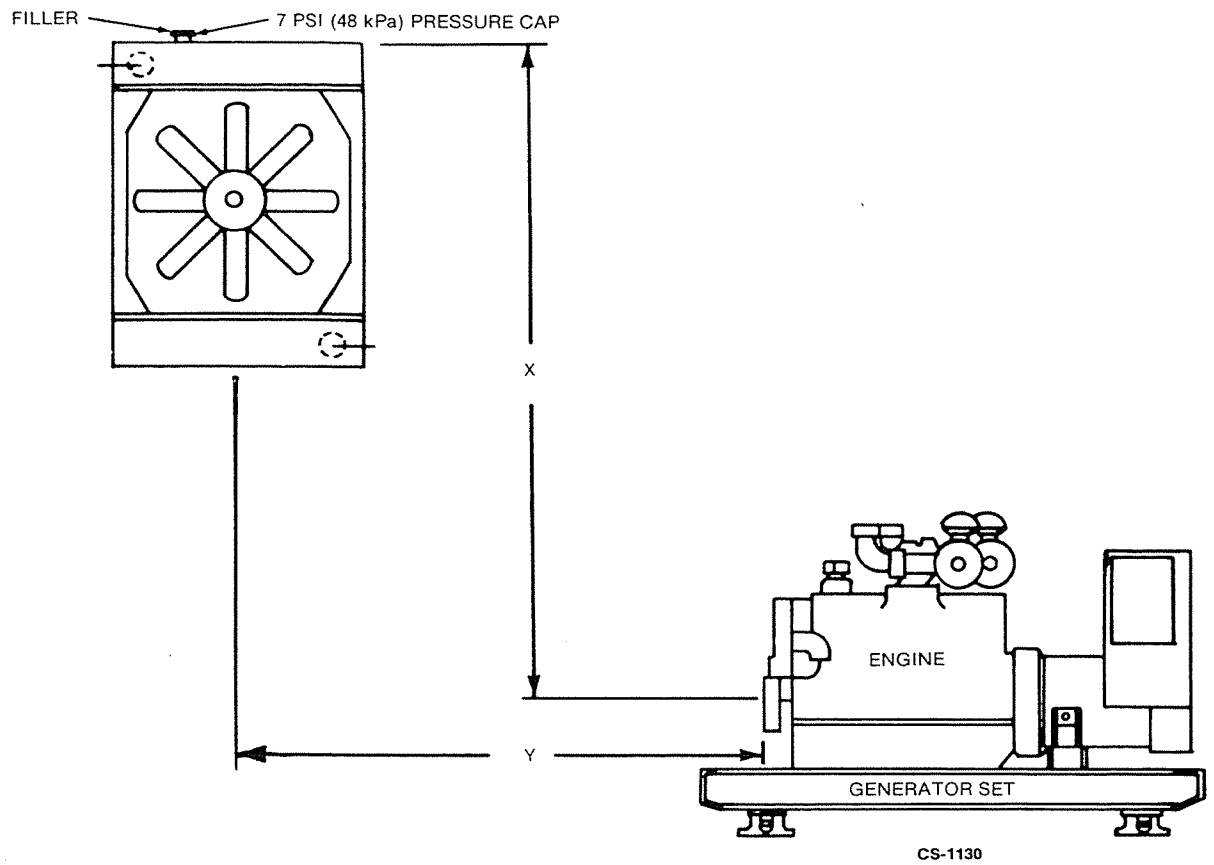

FIGURE 2. REMOTE RADIATOR INSTALLATION
The two key design considerations in a remote radiator installation are the vertical distance (X) from the engine centerline to the radiator top and the horizontal distance (Y) from the engine front to the radiator centerline (see Figure 2). These distances determine if any additional equipment is required such as a surge tank, auxiliary pump, or hot well. Because of the many design considerations, all remote radiator installations must be engineered to insure that the system will function properly. Follow the instructions of the consulting engineer when installing a remote radiator system. Additional information is contained in Technical Bulletin T-030.